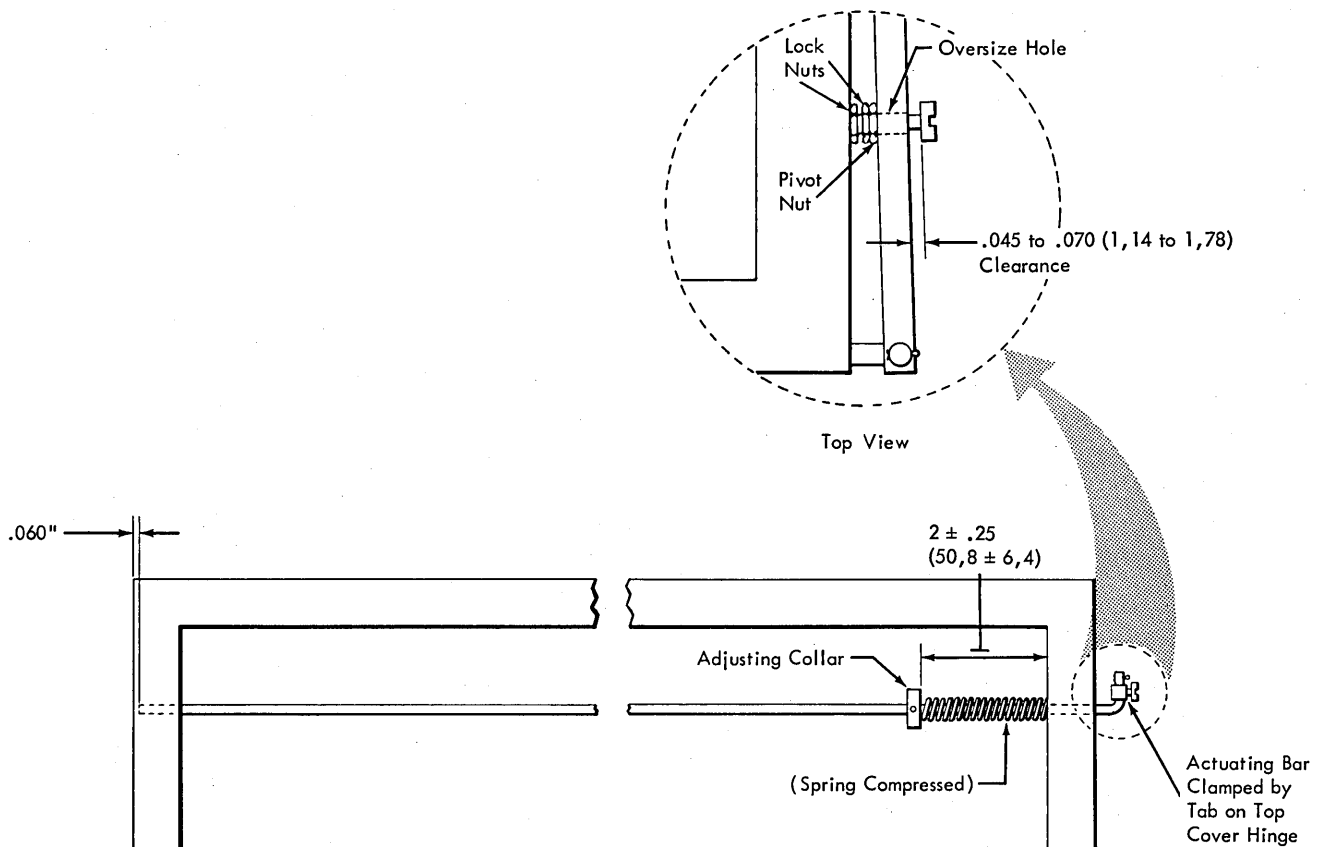

Figure 4-8. Interlock-Rod Adjustment (Latched)
1. Adjust the collars on the interlock rods (Figure 4-8) to set the length of the compression springs at $2 \pm .25$ in. (50, 8 \pm 6, 4 mm).